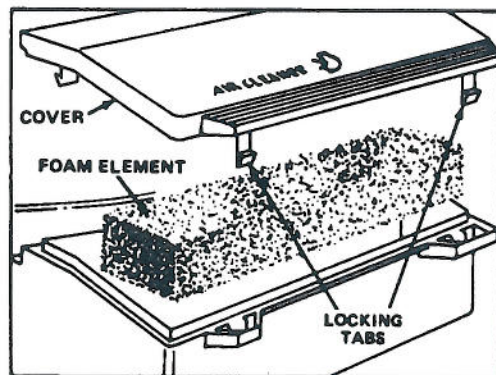

Figure 13
2. Push in locking tabs and lift off air cleaner cover. Clean cover thoroughly (Fig. 13).
3. If top of foam element is dirty, remove it from air cleaner body (Fig. 13). Clean thoroughly.